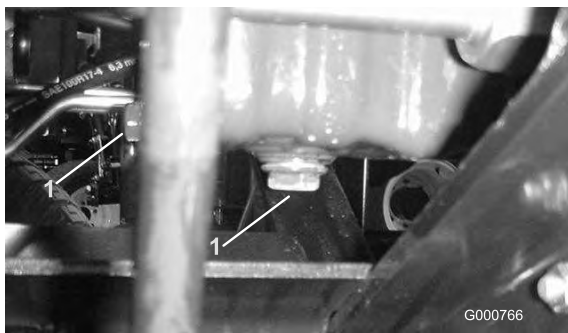

Figure 56
1. Remove drain plug (Figure 56) and let oil flow into drain pan. When oil stops, install drain plug.